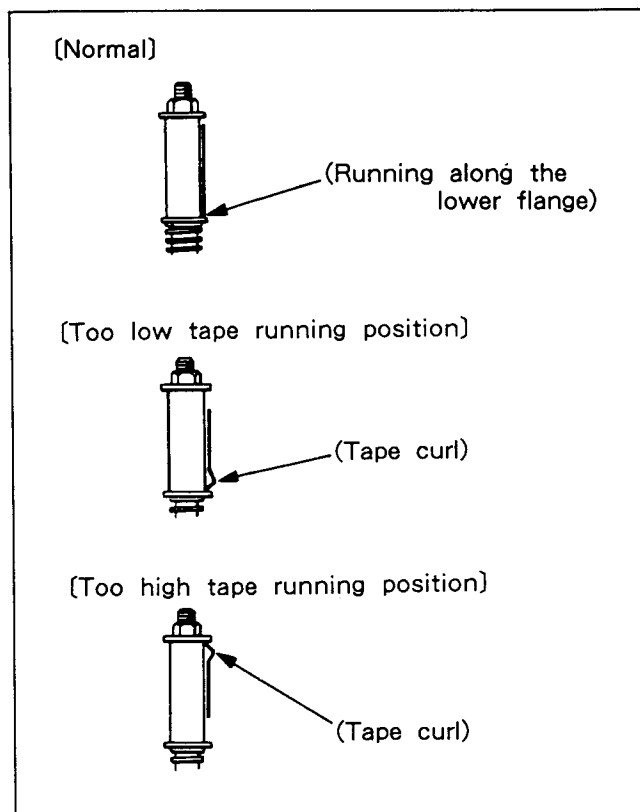

Fig. 5-4-7. Fixed Guide (T)
5-4-5. EXIT SIDE FIXED GUIDE (T) ADJUSTMENT (See Fig. 5-4-7.)